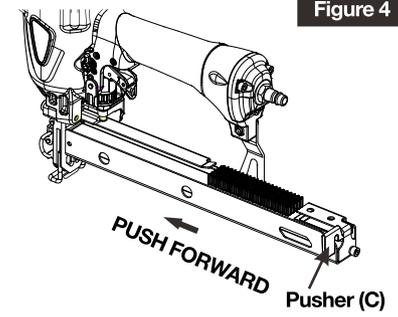

Figure 4
4. Insert appropriate nail strips from the top of magazine. (See Figure 4)